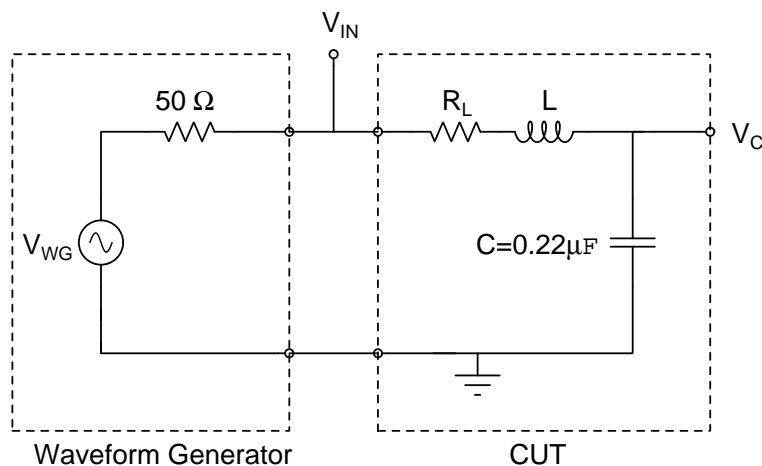

Figure 1: RLC circuit analyzed and measured in Lab #6.
3. Consider the circuit in **Figure 1** with $R_L = 0\ \Omega$ and $L = 1\ \text{mH}$.
2. Build the RLC circuit shown in **Figure 1**.